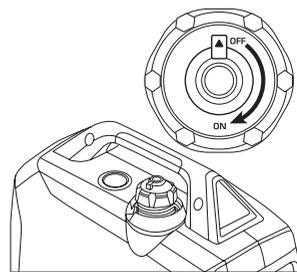

Fig. 1
3. Open the vent on the fuel cap to the “ON” position (for model KS 4000iE S, see fig. 1).